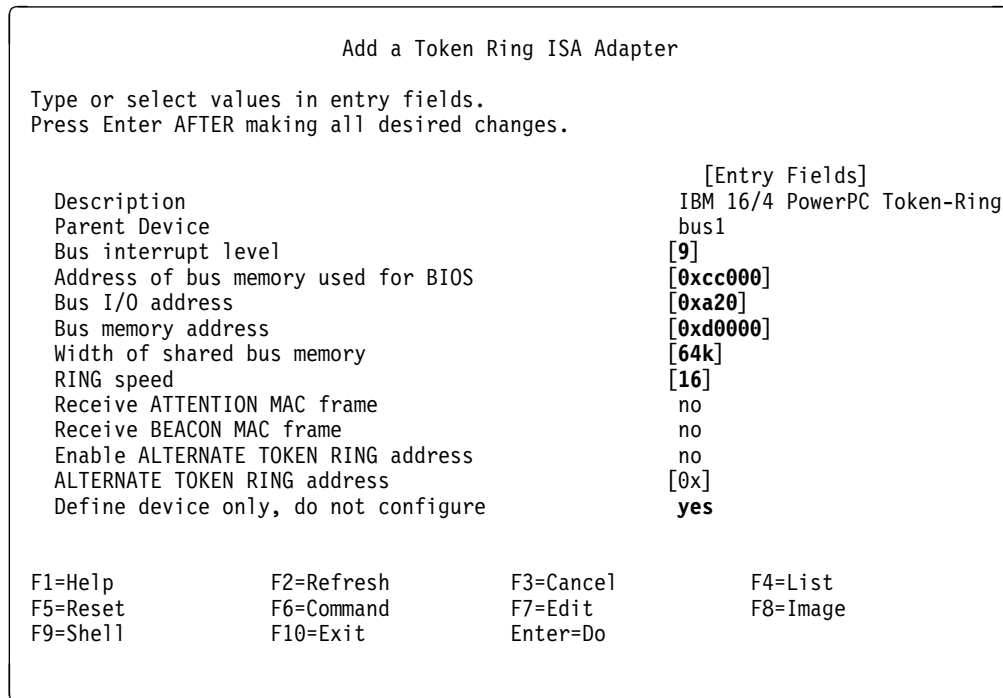

Figure 41. SMIT Configuration Menu for Adding an Auto 16/4 Token-Ring ISA Adapter
14. From the menu described in Figure 41 on page 133, select the correct Interrupt Level, Bus I/O Address, Bus Memory and Media Type values, and press **Enter**.